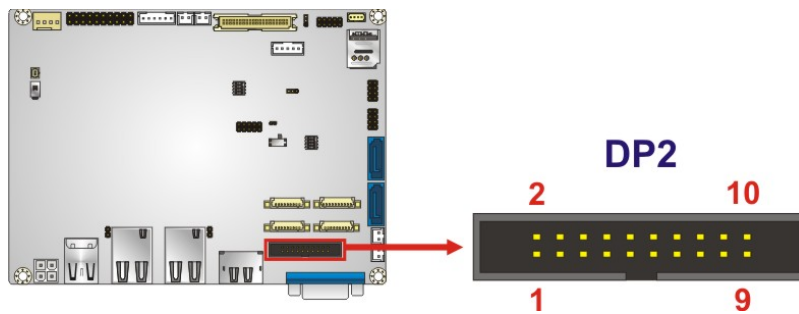

Figure 3-8: iDP Connector Location
- CN Location:** See **Figure 3-8**